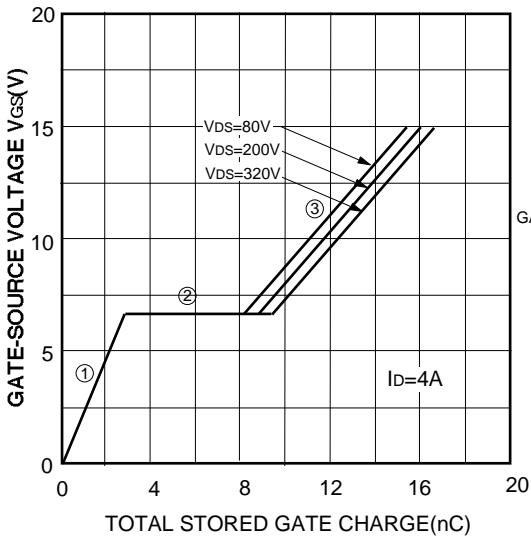

Fig.35 The relation between applied gate-source voltage and stored gate charge
(2) MOS-FIT gate drive power dissipation
Fig.35 shows the relation between the applied gate voltage and the stored gate charge. In the region ①, the charge is mainly stored at Cgs as the depletion is spread and CGD is small owing to the off-state of MOS-FIT and the high drain voltage. In the region ②, the CGD is multiplied by the "mirror effect" as the characteristics of MOS-FIT transfers from off-state to on-state. In the region ③, both the CGD and Cgs affect to the characteristics as the MOS-FIT is on-state and the drain voltage is low. The charging and discharging current caused by this gate charge makes the gate power dissipation. The relation between gate drive current Id and total gate charge QGSH is shown by following equation;